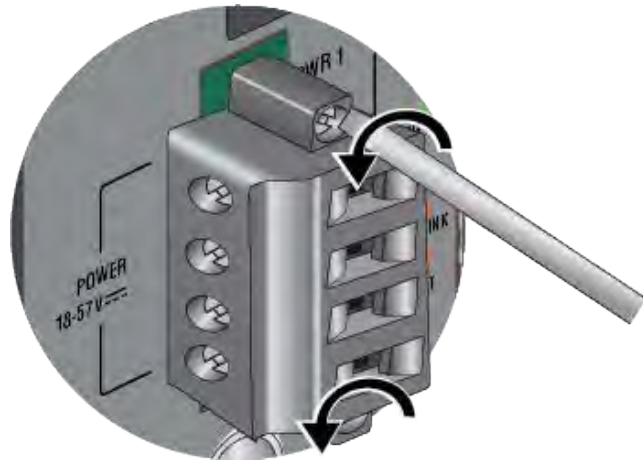

Figure 62. Loosening the Two Captive Screws on the POWER Plug
3. Loosen the two captive screws on the POWER plug with a #1 flat-head screwdriver. Refer to Figure 62.